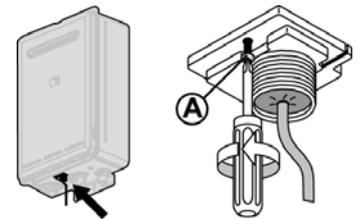

Fig.5
2. Remove the retaining screw of the quick cable connector door located at the base of the appliance (A) (Fig.5).